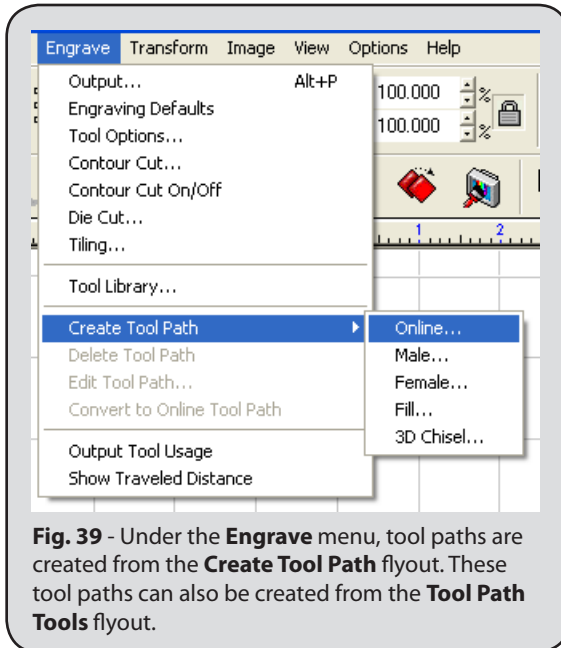

Fig. 39 - Under the **Engrave** menu, tool paths are created from the **Create Tool Path** flyout. These tool paths can also be created from the **Tool Path Tools** flyout.
3. Select the text shape, and then create an **Online** tool path from the **Engrave** menu (Fig. 39).